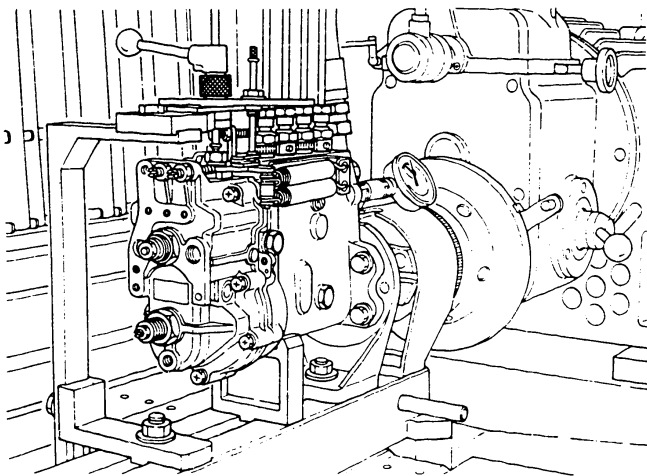

Fig. 133 Mounting the injection pump
1. Secure the fuel injection pump on the pump test stand and fill both the governor chamber and cam chamber with lubricating oil. (Fig. 133)